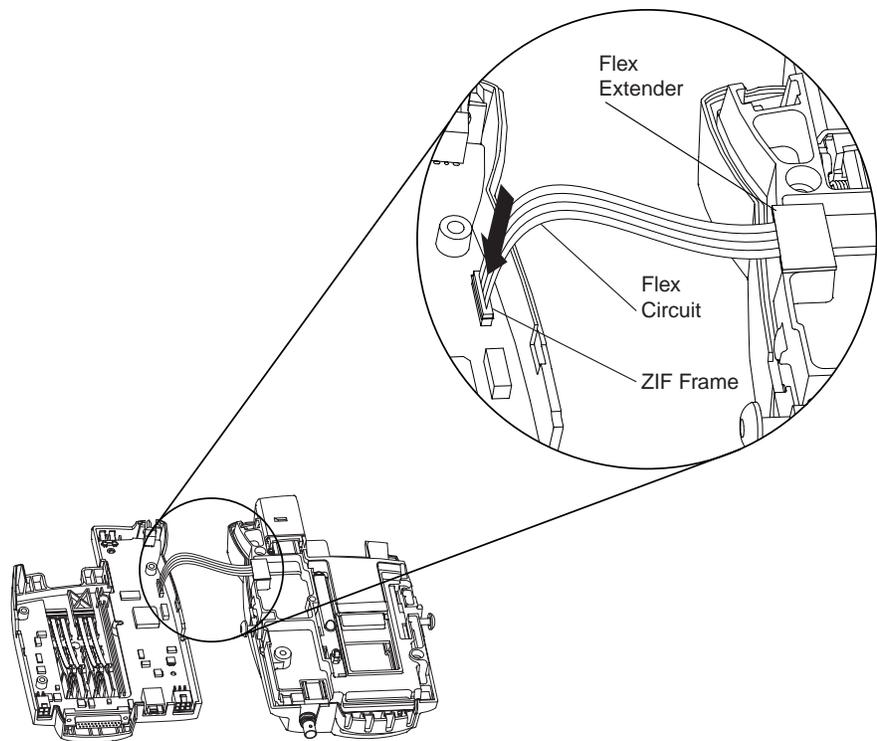

Figure 16 Connecting the Flex Extender
7. Connect the ZIF connector end of the flex extender (part of NTN8982_) to the exposed end of the ZIF flex as shown in Figure 16. Hold the end of the flex circuit ribbon so that the text “THIS SIDE IN” faces upwards, and insert the end into the ZIF connector. Secure the flex circuit ribbon end by pushing down on the ZIF connector frame.